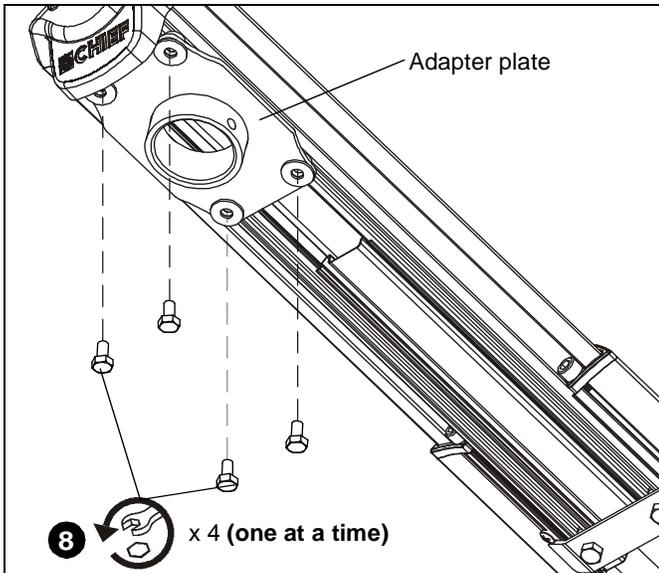

Figure 38
8. Remove one of four bolts from adapter plate. (See Figure 38)